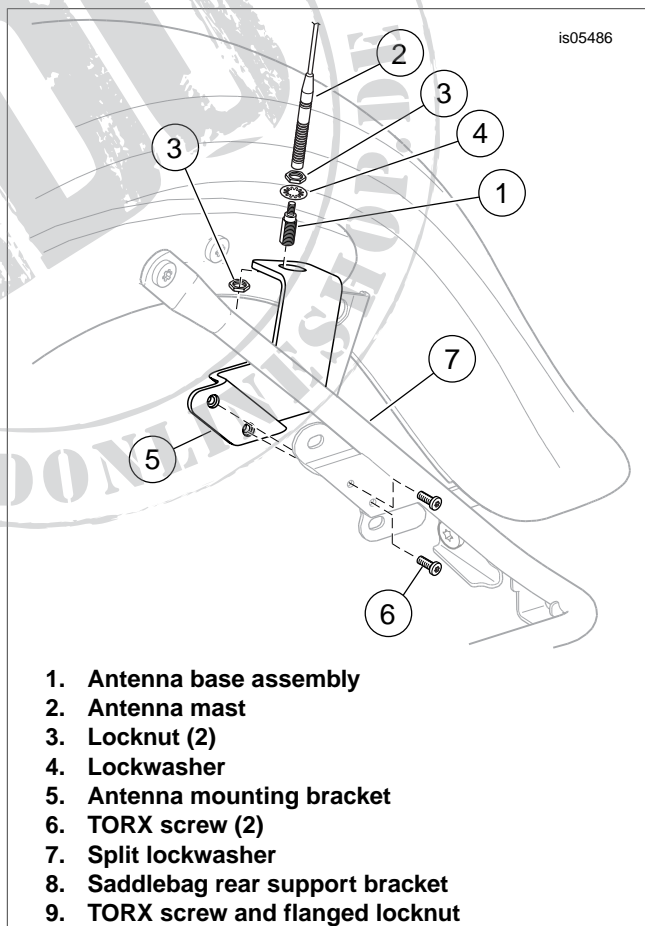
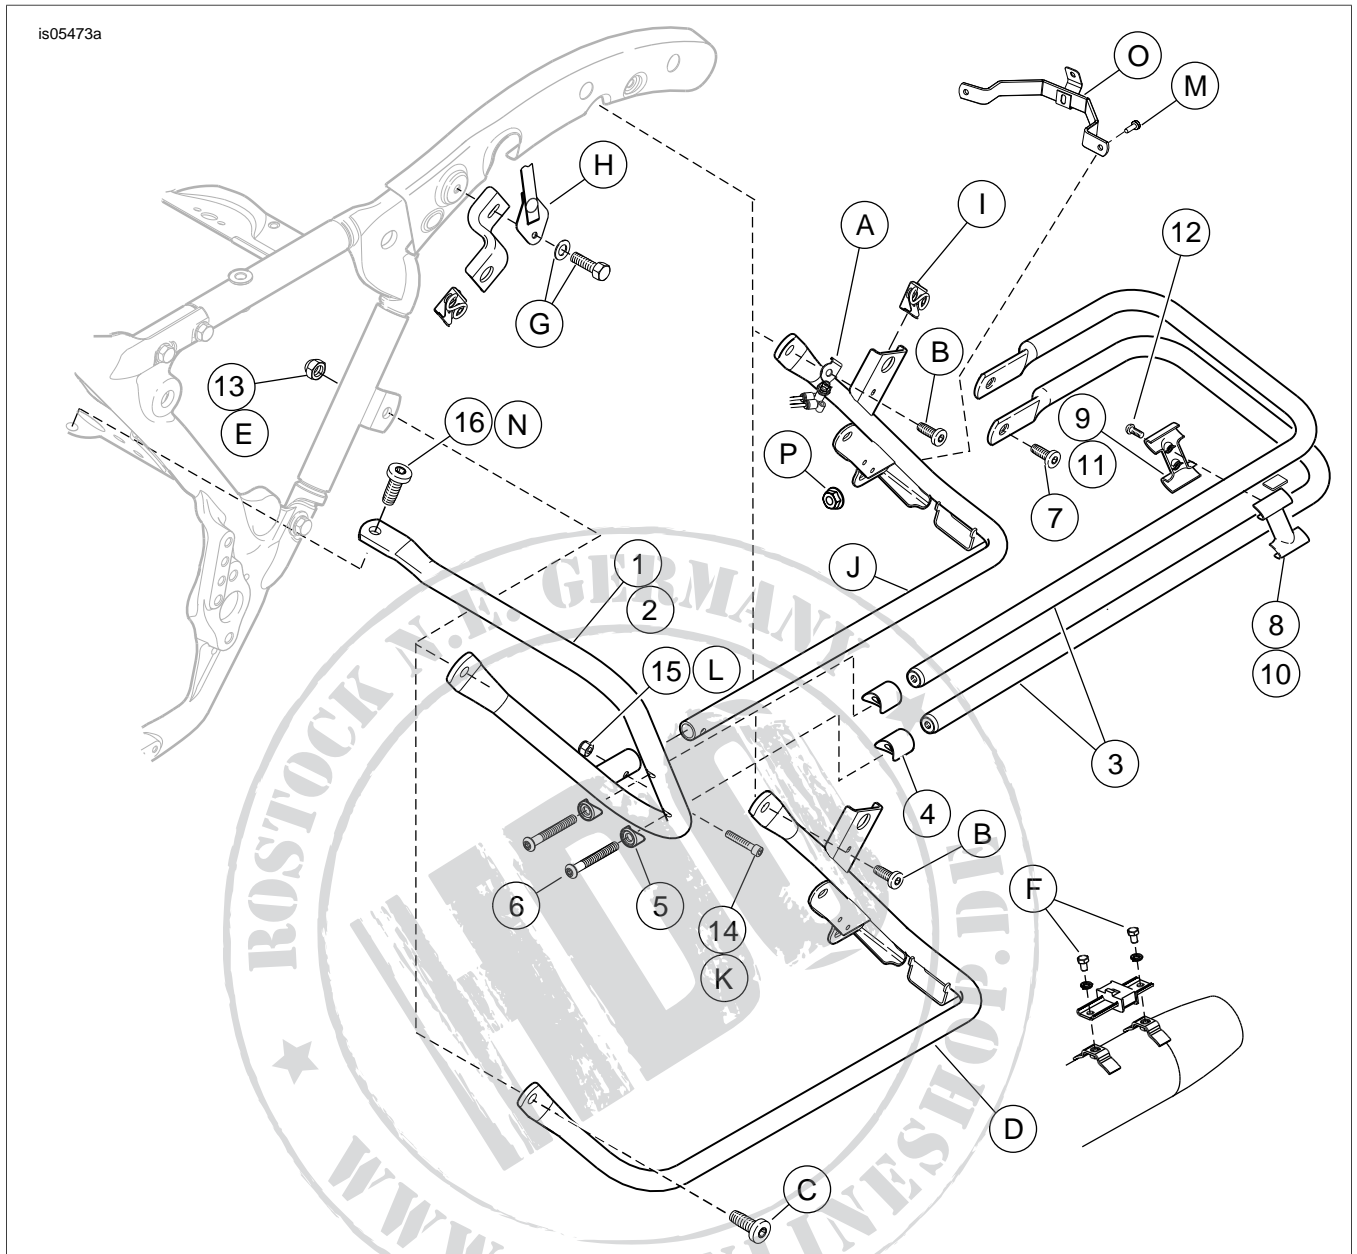

Figure 2. Antenna Mounting Bracket
Figure 3. Service Parts: Saddlebag Guard Kit (Left Side Shown)
See Figure 3 and Table 1.
2. See Figure 3. Remove grab strap screw and washer (G). Remove grab strap (H). Remove seat following the instructions in the service manual.
#### 4. For FLTR Models: See Figure 3.
#### For All Other Models: See Figure 3.
1. **For FLTR Models:** See Figure 3.
- a. Install left saddlebag support (J) (purchased separately) into left forward guard (1).
- b. Install the rear saddlebag support mounting screw (B) through the air suspension bracket (A) and saddlebag support (J). Install screw finger-tight.
- c. Install bolt (M) and nut (P) (purchased separately). Tighten finger-tight.
- d. See Figure 2. Install antenna bracket (purchased separately) with hardware (removed earlier).
**For All Other Models:** See Figure 3.
- a. Install new left forward saddlebag guard (1) with upper bolt (16) and lower bolt (C) with nut (13).
2. Install screw (14) and nut (15). Tighten finger-tight.
3. Insert one rear guard rail mount (4) into rounded, tubular end of the rear guard (3) aligning with the lower hole on the forward guard (1).
4. Insert a hex cap screw (6) through the front guard rail mounts (5) as shown.
5. Install saddlebag side guard rail (3) into the guard mount on the forward guard. Tighten the screw finger-tight.
6. Install screw (7) and tighten finger-tight.